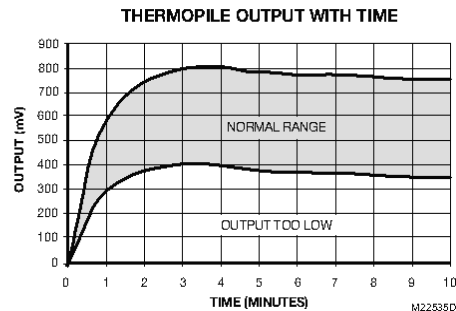

Fig. 7. Thermopile output.
5. Output should be at least 350 mV. (See Fig. 7.) Connect the 3.6 ohm resistor between the two thermopile leads, the voltage should be at or higher than one half of the open circuit voltage.